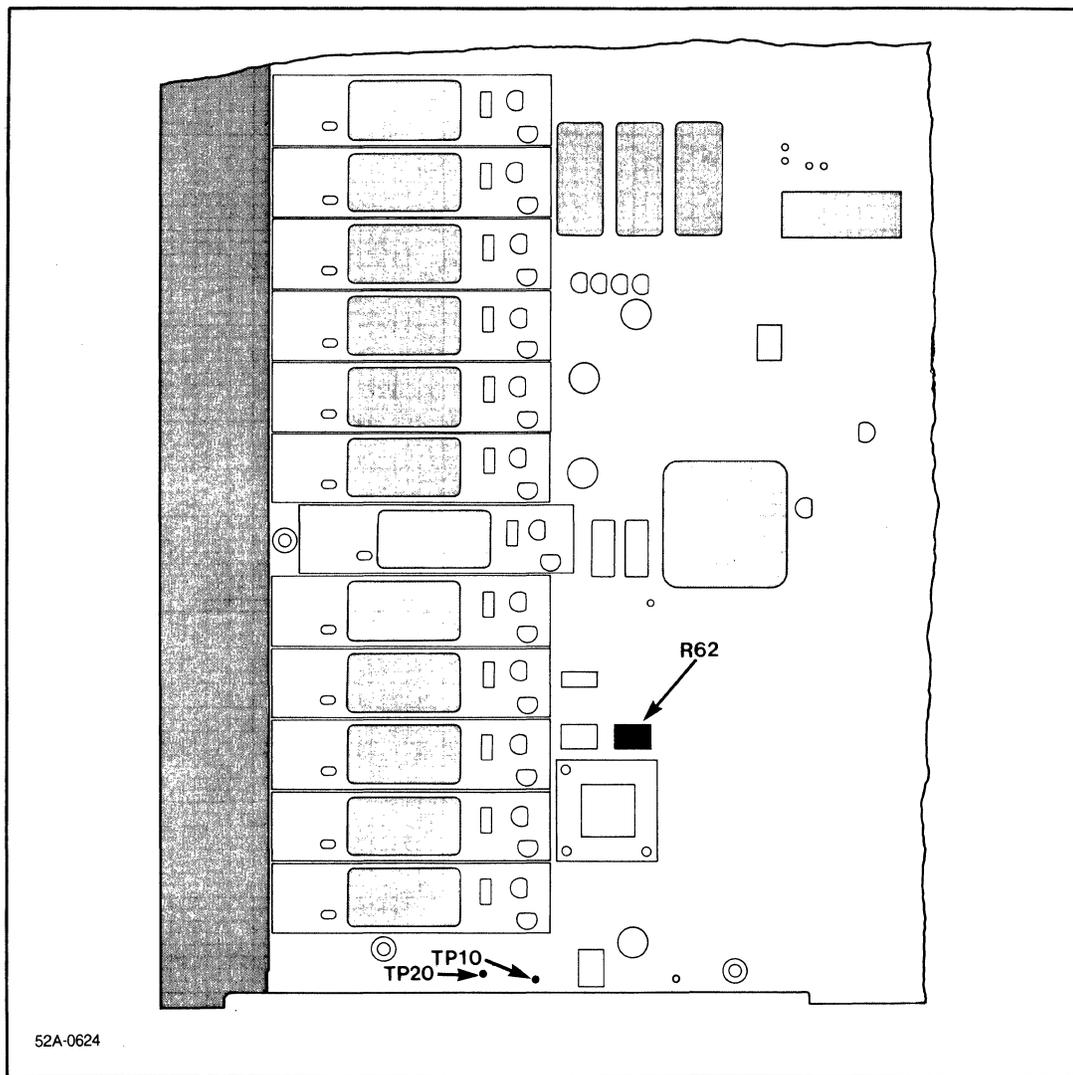

Figure 7-9. Second Offset Adjustment
- 6) Remove the voltmeter lead from test point TP11 and connect it to test point TP10. Leave the other voltmeter lead connected to test point TP20. (See figure 7-9.)
- 7) Adjust potentiometer R62 (see figure 7-9) until the voltage reading on the voltmeter is  $0.0 \text{ mV} \pm 0.2 \text{ mV}$ . (As with the first offset adjustment, there will be some noise present.)